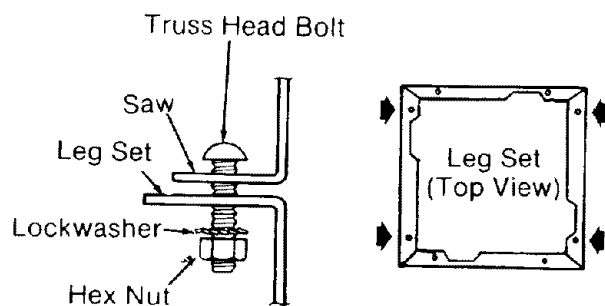

Fig. 20
2. Fasten the *saw* to the leg set with four truss head bolts. Put a lockwasher and hex nut on each bolt and tighten using a 7/16 inch wrench or socket. (Figure 20)